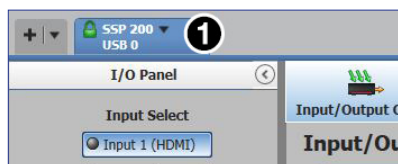

Figure 56. Accessing the Device PCS Menu
5. On the Device Discovery screen, select the **SSP 200** (1).
6. Click **Connect** (2).
7. The Product Configuration Software opens to the main page (see figure 56). Click the device menu arrow next to the name of the device (1).